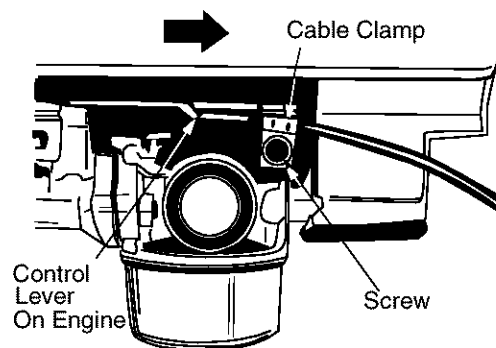

Figure 16
- Remove the screw shown in Figure 16. Remove the cable clamp from the cable.
**NOTE:** If you have a Tecumseh engine, simply loosen the screw shown in Figure 16 so the cable will move freely beneath the clamp. It is not necessary to remove the screw and clamp completely.